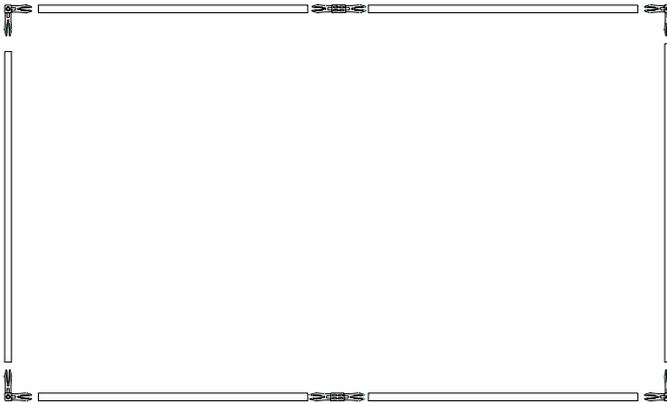

Figure 6: Diagram of 2 ft x 4 ft frame
- 1** Build the 2 ft x 4 ft frame structure as shown in Figure 6 using six 2 ft aluminum frame tubing pieces, four right-angle tubing connectors, and two straight tubing connectors. Remember to construct the frame so that all Velcro surfaces face in (toward the center of the structure).